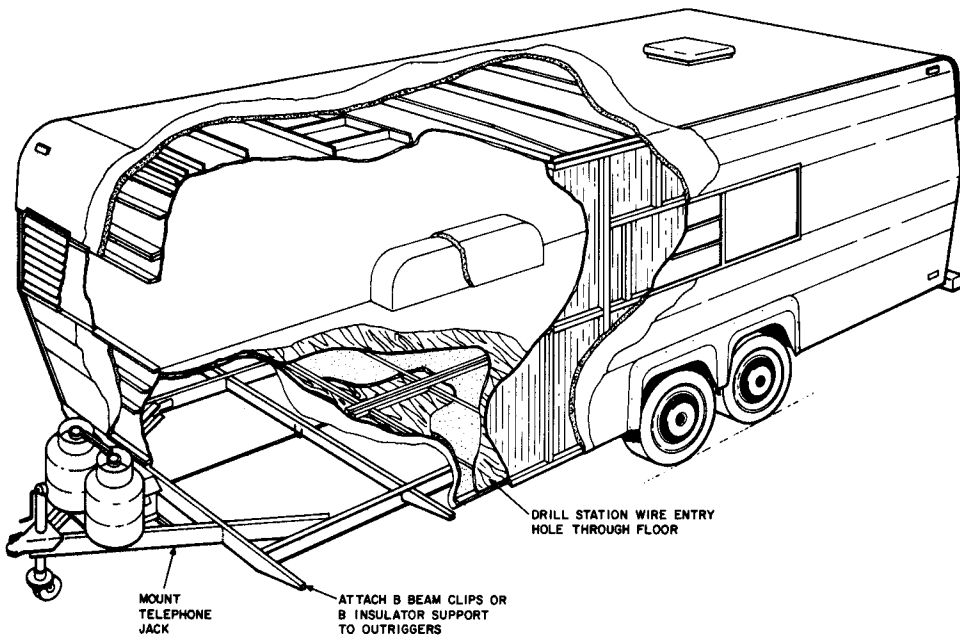
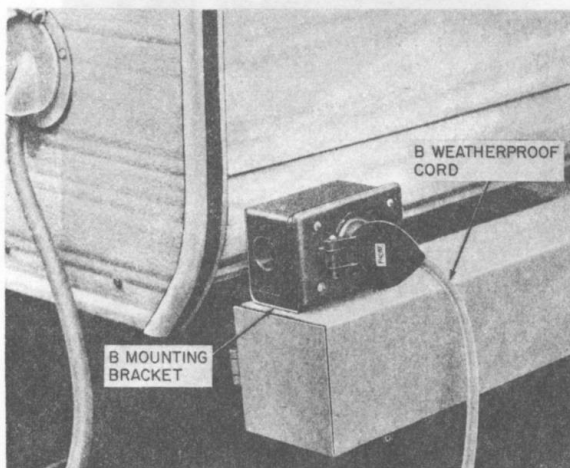

Fig. 16—Typical Recreational Trailer Construction
Fig. 17B—B Weatherproof Male Jack Mounted on Rear Bumper of Truck Camper or Motor Home
3.04 The B outlet box and B mounting bracket should be mounted on the vehicle by the installer using the mounting holes provided by the customer. For trailers the customer will use the C template to drill holes for the mounting bracket on top of the vehicle hitch as close to vehicle as possible. The box should be mounted on the same side as the other utilities with the jack on the outside (Fig. 16 and 17A). For truck campers and motor homes, the customer will use the template to drill holes on the left side of the rear bumper (see Fig. 17B). The outlet box should be mounted so that it does not extend beyond the edge of the bumper. The cord grip assembly may be attached to either end depending on existing space. The telephone installer will wire from the connecting block or the telephone set in the vehicle to the B outlet box on the trailer hitch or bumper. The bonding lead provided with the bracket must be